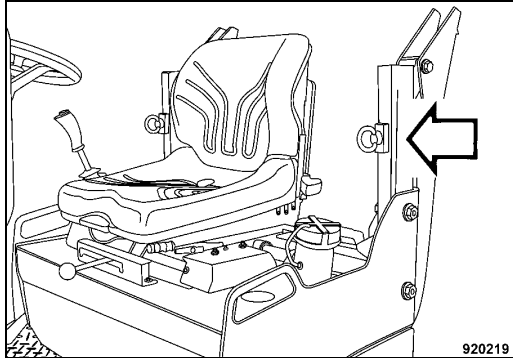

Fig. 117
- To fold up the foldable ROPS align the clamping plates on both sides vertically (Fig. 117).